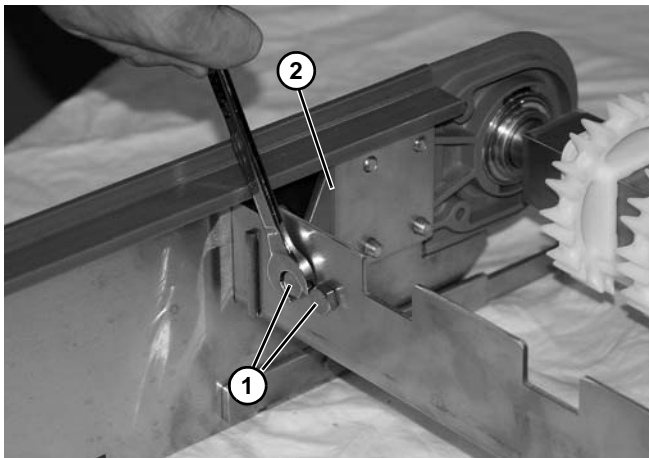

Figure 45
3. Remove two screws (**Figure 45, item 1**) securing drive support brackets (**Figure 45, item 2**) to center member. Repeat on opposite side of the conveyor.